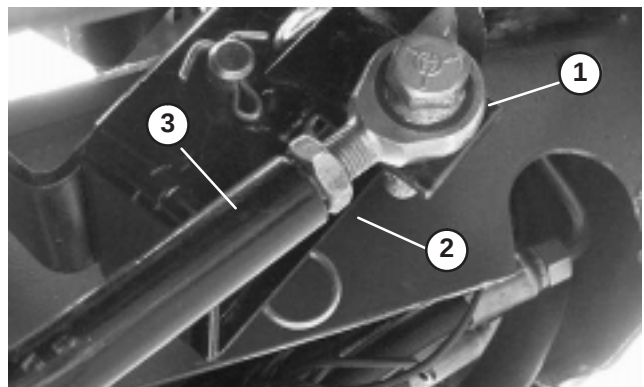

Figure 53
3. If more adjustment is required, adjust traction rod (Fig. 53) as follows: